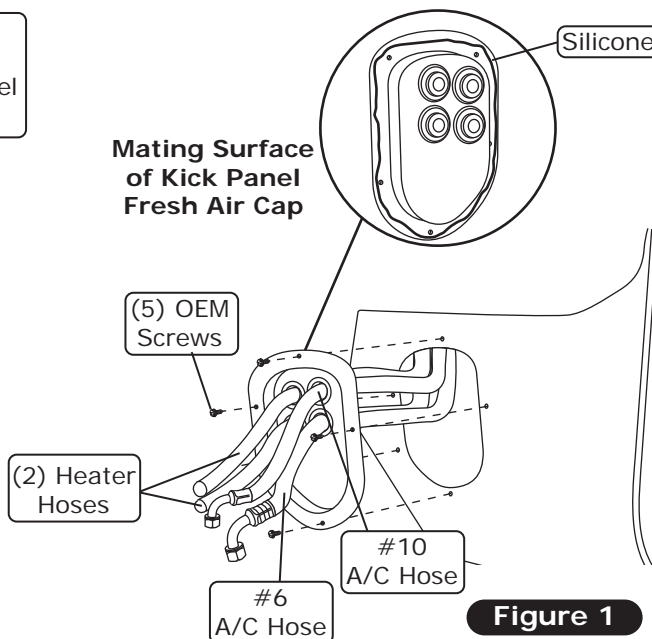

Figure 1
2. Apply 1/4" bead of silicone around the mating surface of the kick panel fresh air cap as shown in Figure 1, below.
3. Secure the kick panel fresh air cap using (5) OEM screws as shown in Figure 1, below.